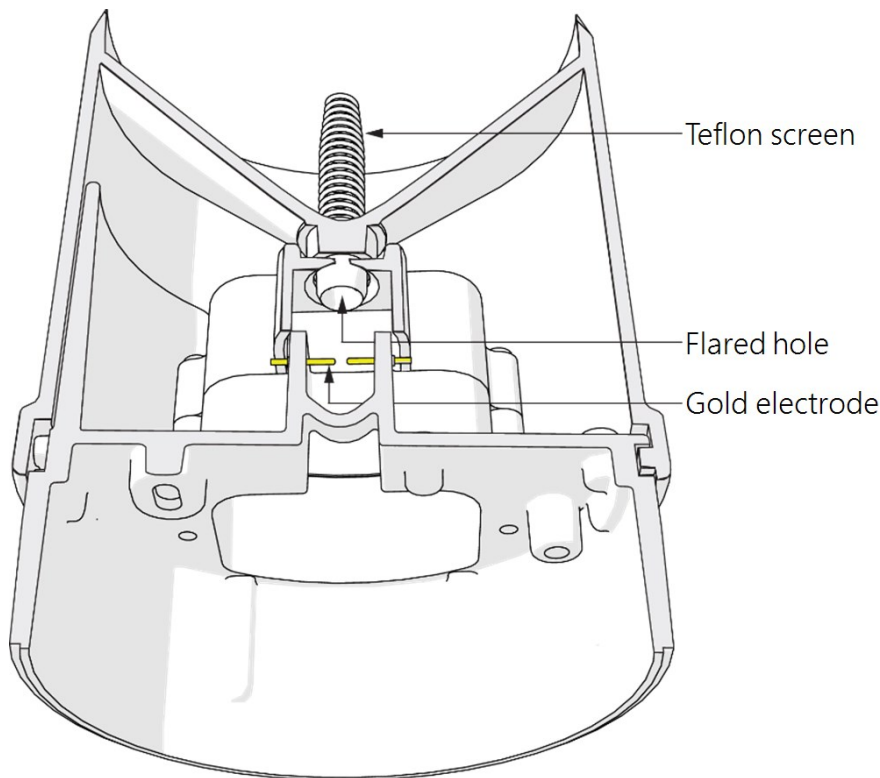

Figure 8-5. Rain gauge cutout
- c. Check the downspout for debris (Figure 8-5 [p. 24]). Use a pipe cleaner or small soft brush to clean the downspout.